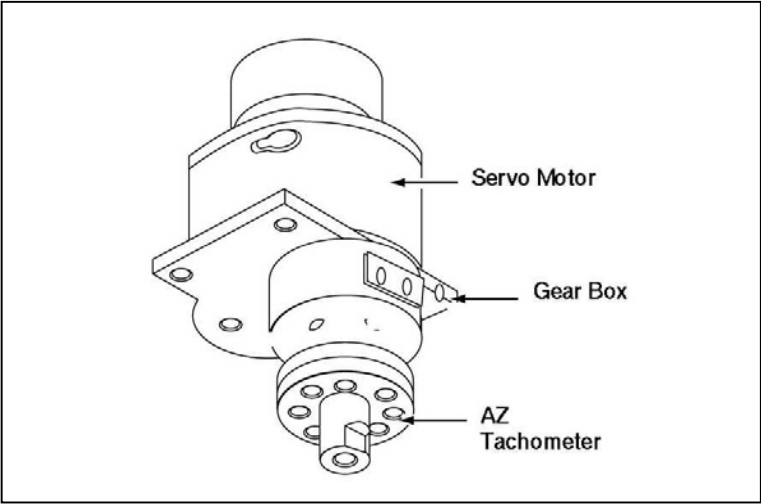

Figure 4-2-6: Azimuth Drive Assembly
22. **Azimuth Drive Assembly.** The azimuth drive assembly (see Figure 4-2-6) consists of a 24 V dc gear motor and tachometer. The gear motor engages the turret azimuth gear to traverse the turret. If the turret encounters any form of resistance that keeps it from traversing, a current limiter prevents gear motor burnout by limiting it to a force of 180 kg/m (equivalent to a current of 70 amps).
23. **Azimuth Tachometer.** The azimuth tachometer (see Figure 4-2-6) is bolted to the shaft of the azimuth gear motor. The gear motor drives the turret in azimuth. Movement of the turret in azimuth is detected by the tachometer and a signal that is